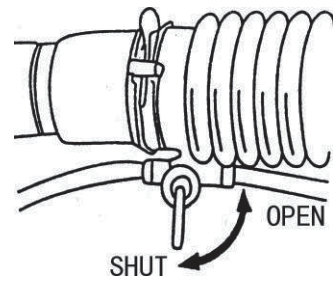

Fig.8
- 1) During spraying operation, while adding chemical, the switch must be shut, see Fig.8. During dusting operation, dusting value throttle and fuel lever should be on the bottom position, otherwise, the machine will have chemical out.